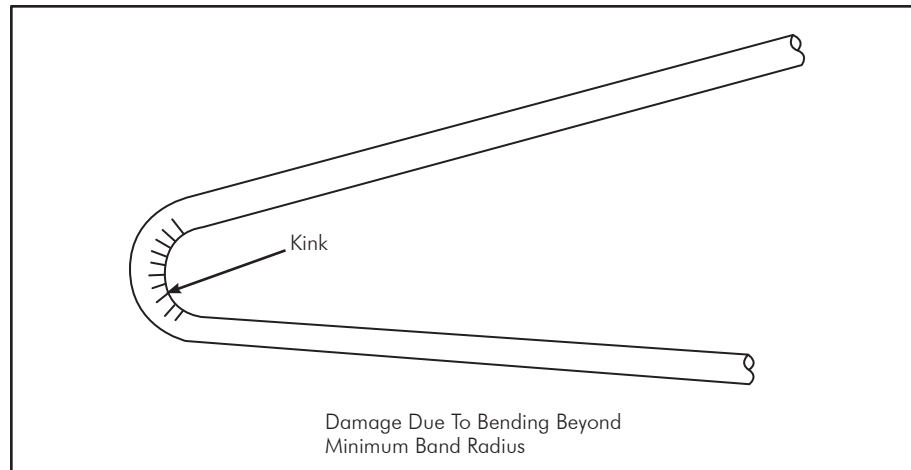

FIG. 5-4 Repair Is Necessary
- The tubing has been bent beyond its minimum bend radius so that a crease or kink appears (**FIG. 5-4**).